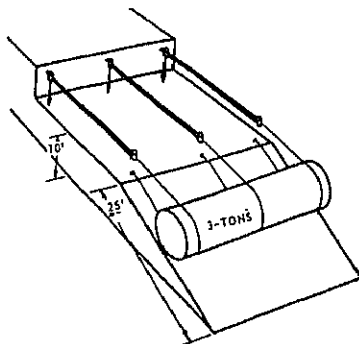

Figure 1F
- 1-45. Assume that you are using a parbuckling rig consisting of three runners to raise the weight shown in figure 1F. You have clapped a twofold tackle on each runner. In addition to the pull exerted to overcome friction, what pull must the person on each runner exert to raise the weight?